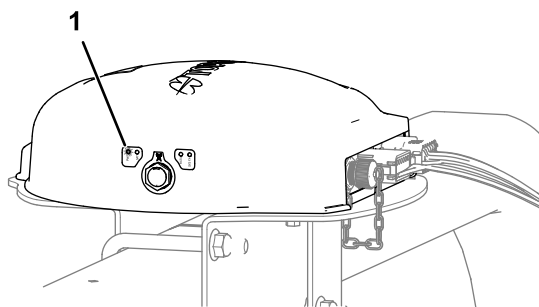

Figure 233
- Satellite receiver—the PWR indicator illuminates (Figure 233)